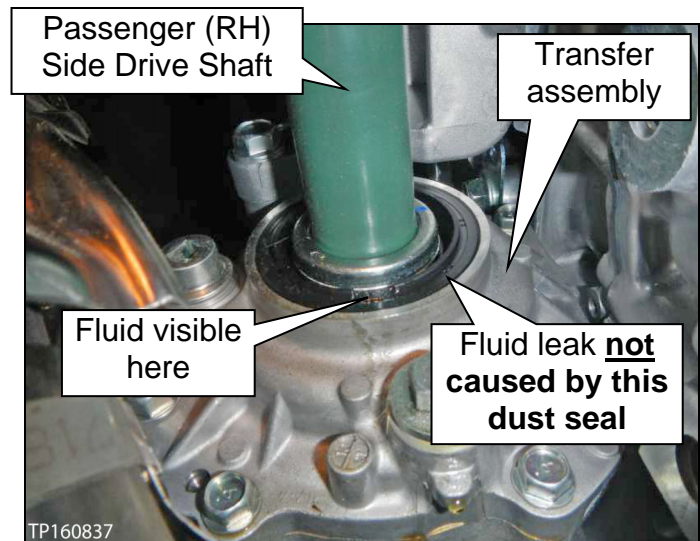

Figure 1
- The fluid leak is **NOT** caused by the dust seal shown in Figure 1.